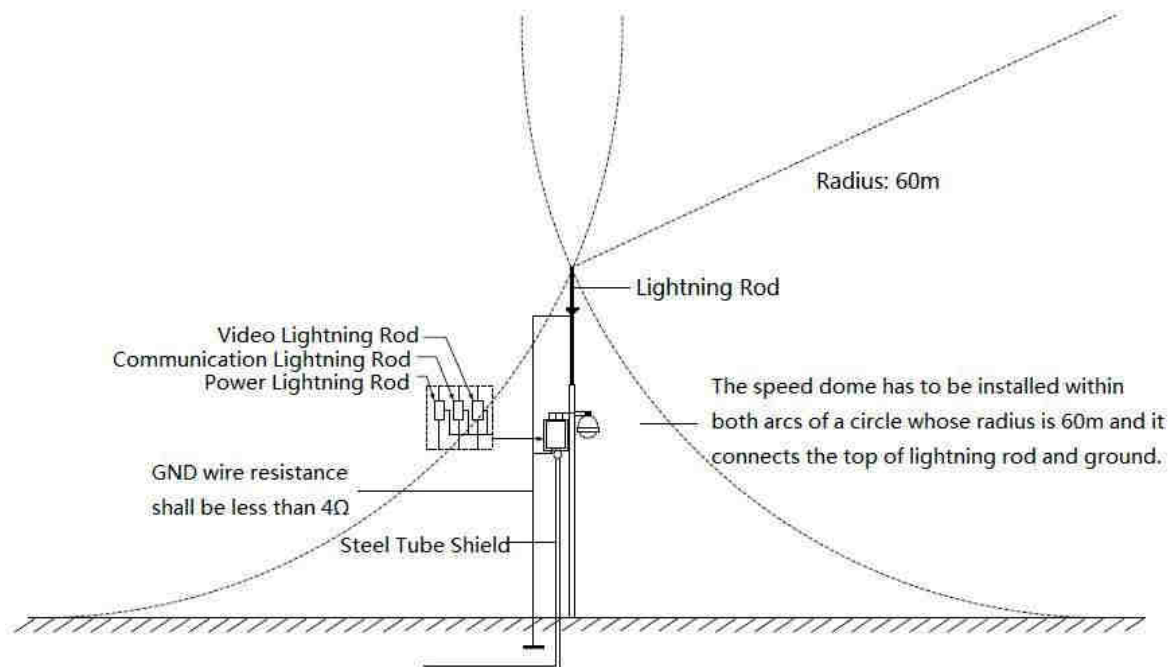

Figure 4-1
- System shall adopt equal-potential wiring. The earth device shall meet anti-jamming and at the same time conforms to your local electrical safety code. The earth device shall not short circuit to N (neutral) line of high voltage power grid or mixed with other wires. When connect the system to the earth alone, the earth resistance shall not be more than 4Ω and earth cable cross-sectional area shall be below 25 mm^2 . See Figure 4-1.